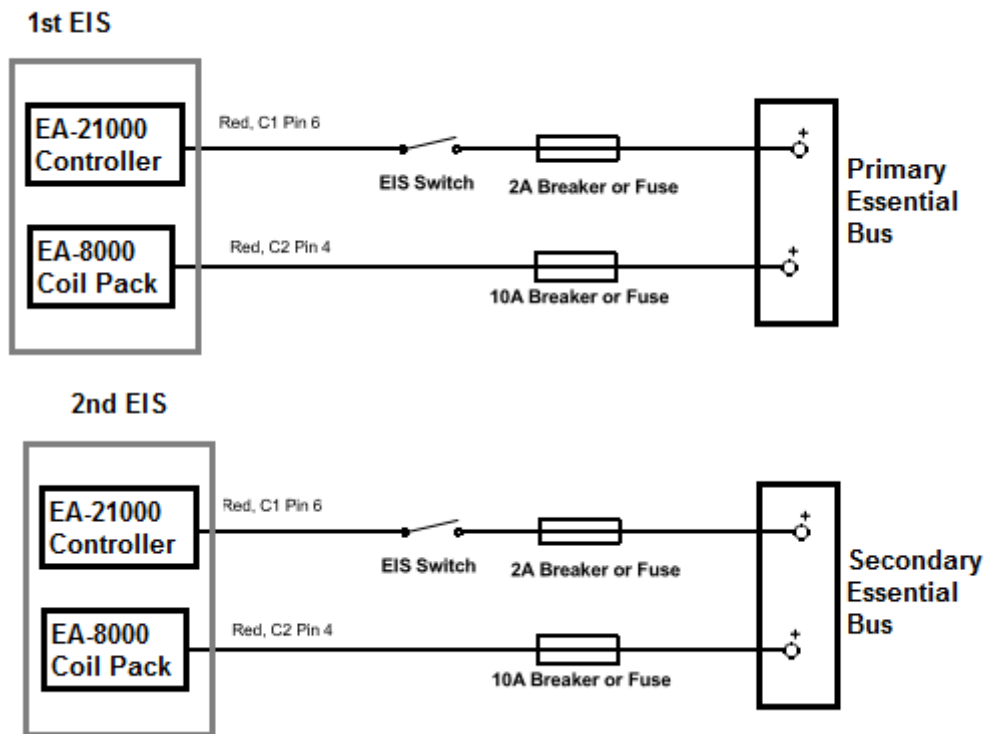

Figure 19: Single Engine, Dual EIS Dual Electrical System Power Connections
- 2.) **Dual EIS Installation with Dual Electrical System:** Connect each panel mounted switch to a 2-amp breaker or fuse. For one EIS kit, connect the 2-amp breaker or fuse to Essential Bus Bar. For the other EIS, connect the 2-amp breaker or fuse to the other essential bus bar. **Note:** Keep track of what power source is connected to each EIS. See Figure 19.
- 2.) **Dual EIS Installation with Dual Electrical System:** For each EIS, route the unterminated end of the Red wire from the harness through a 10-amp breaker (fuses may be used as an alternative to breakers) to the same essential bus the controller in the same EIS kit is connected too. Cut to length and install terminals as required. See Figure 19
- iii. **Dual EIS Installation on one engine with dual electrical systems:** Connect C2-Pin 4 and C1-Pin 6 of one EIS to one electrical system (through 10A and 2A breaker or fuses). Connect C2-Pin 4 and C1-Pin 6 of the 2nd EIS to the other electrical system (through 10A and 2A breaker or fuses). For twin engine aircraft, if the other engine has one EIS installed, the C2-Pin 4 and C1-Pin 6 connections can be made to either electrical systems. See Figure 19.